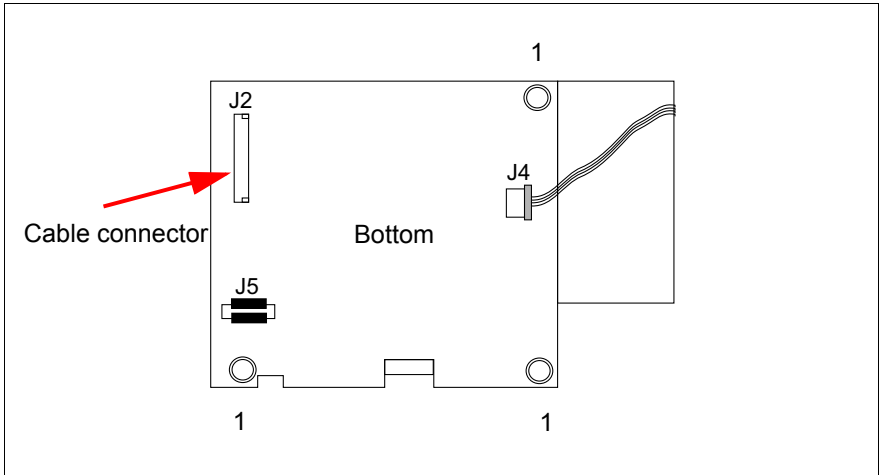

Figure 13: Position of the cable connector LSliBBU07 / LSliBBU08
3. Insert the battery pack harness connector (at the end of the colored wires) into the J4 connector (see figure 13) on the bottom of the LSliBBU07 / LSliBBU08.
4. Connect the cable from the cable connector (see figure 13) on the LSliBBU07 / LSliBBU08 to the BBU connector on the RAID controller.